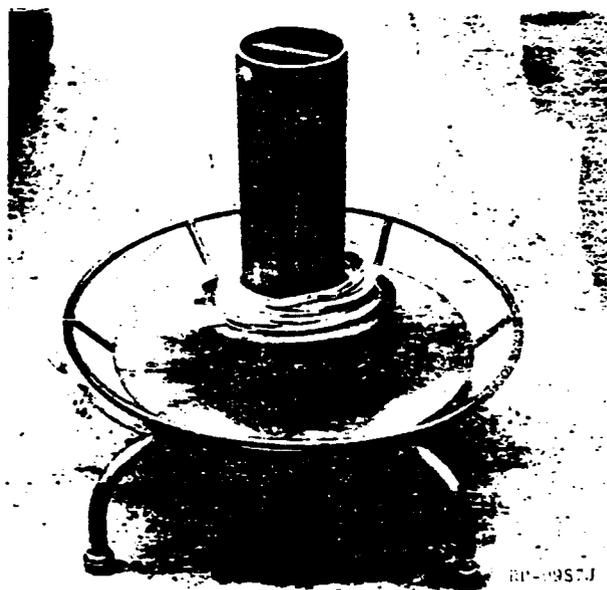

FIG 2 R-4801 HUB MOUNTED ON
3.22 The R-4801 Dispenser Hub is available for smaller cable coils that will not fit on the standard R-3409 Cable Coil Dispenser. The standard R-3409 Hub can be removed and the R-4801 may be fastened in its place by tightening the "T" handle in the threaded opening. R-4801 Detail 2 spacers are provided to facilitate running more than one coil simultaneously. See FIG 2 for illustration.